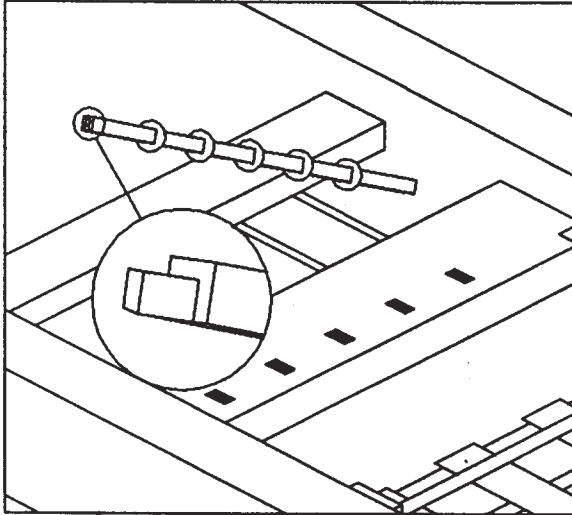

Fig. 9
14. Tear bar is adjustable to accommodate characteristics of various forms. To adjust height bar must be pushed to compress spring and lift out. Rotate 180 degrees (turned over) and replaced making sure that square end of bar locks into brackets. (Fig. 9, shown in HIGH position)
6. Set up tear bar as before. (Fig. 9)